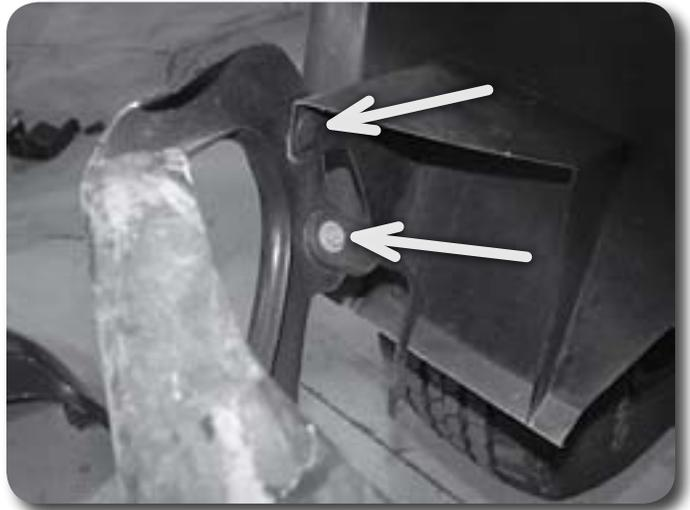

Figure 4
7. Remove the two (one per side) plastic clips and two bolts holding the inner fender to the bumper) Figure 4. Save clips and bolts.